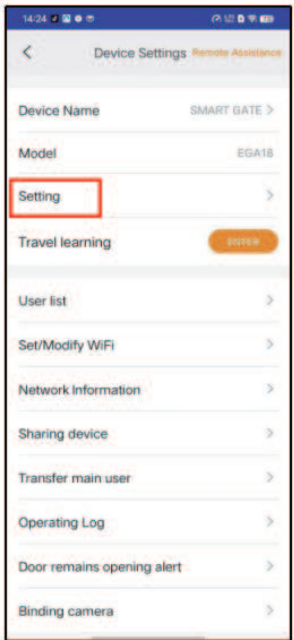

Fig 11
- Step 1. Select the device, press the “ ” on the top right corner. Click the “ Setting”. (Fig 11)